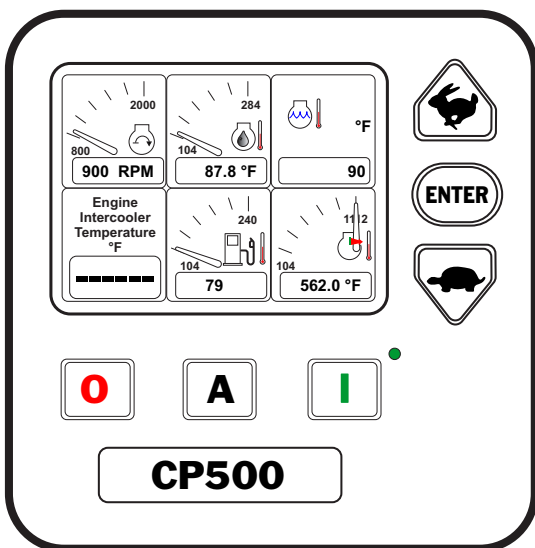

Figure 15. Engine Status 2 (Engine Running)
- Next, press the **ENTER** button to advance to the next screen (Figure 15).